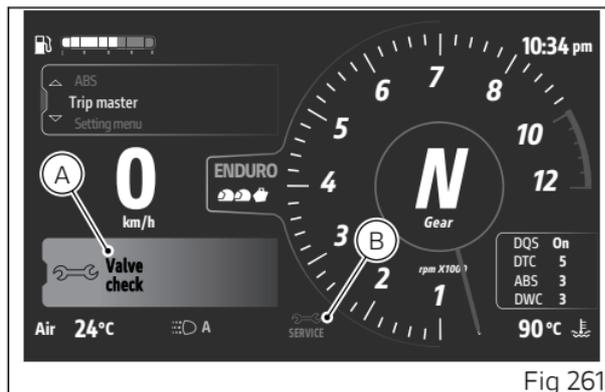
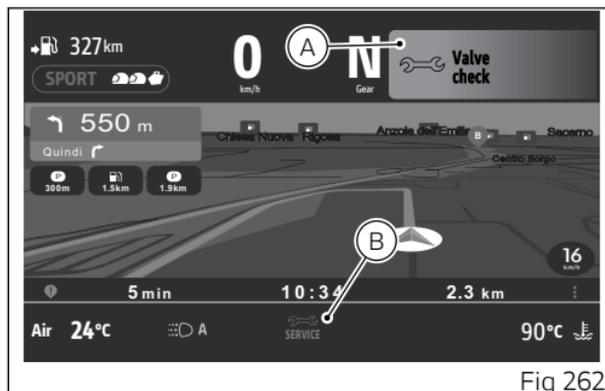

Fig 261
Fig 262
Service coupon deadline warnings are displayed in 2 modes: big (A) and small (B). These figures indicate the corresponding positions in the main page (Fig 261) and in the Ducati Connect page (Fig 262).